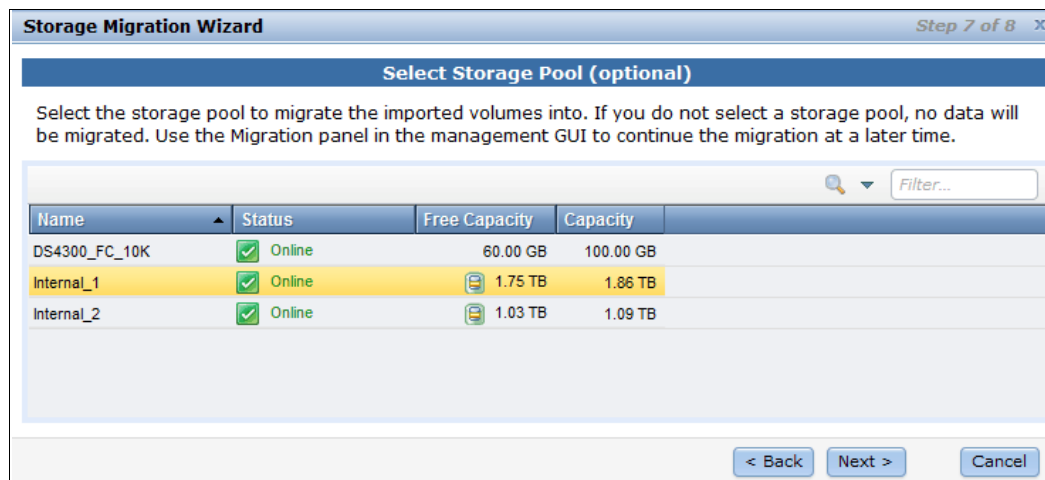

Figure 7-19 Storage Migration Wizard step 7 - select Storage Pool
9. Select the destination storage pool for data migration in Step 7 and click **Next** (Figure 7-19).